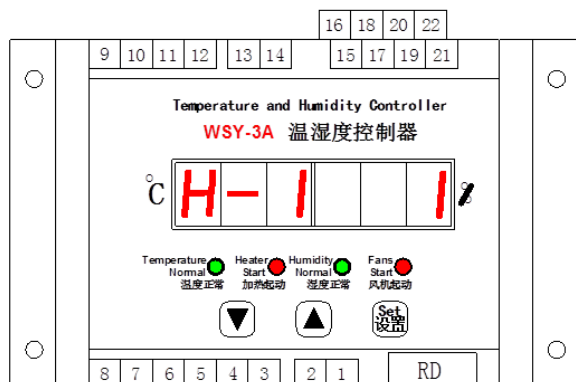

Figure 5
- Simultaneously press the " \wedge " and " \vee " keys, and the left three digit digital display will flash and show H-1, indicating the communication address setting value. The right three digit digital display will show the numerical value within the range of 1-255, which can be set through " \wedge " and " \vee " (see Figure 5).